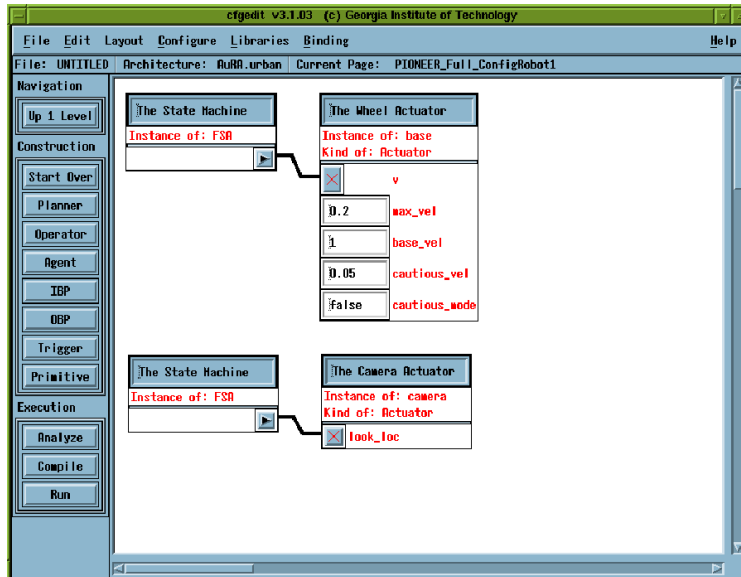

Figure 5: *CfgEdit* - the third level
- If you middle-click again in the box for “Instance of: PIONEERAT”, you will see the display like the one in Figure 5.